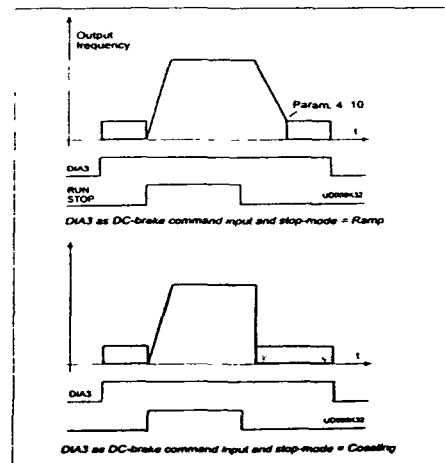

Figure 2-5-4 DIA3 as DC-brake command input a) Stop-mode = Ramp, b) Stop-mode = Coasting
- 9: DC-braking command contact closed = In the stop mode, the DC-braking operates until the contact is opened, see figure 2-5-4